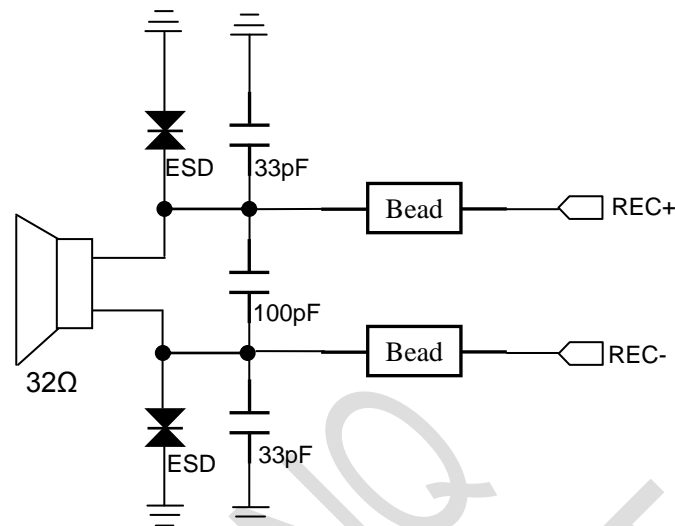

Figure 3.5-2 REC Circuit
(2) The module provides normal receiver output, and the receiver signals take the differential layout and connect directly to the device. The reference circuit is shown in Figure 3.5-2.